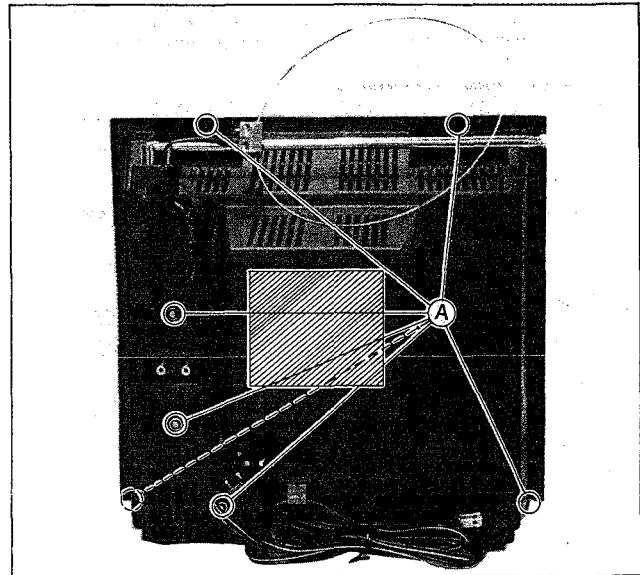

Fig. 1
1. Remove the seven screws (A) shown in Fig. 1 and detach the rear cover by pulling it backward.